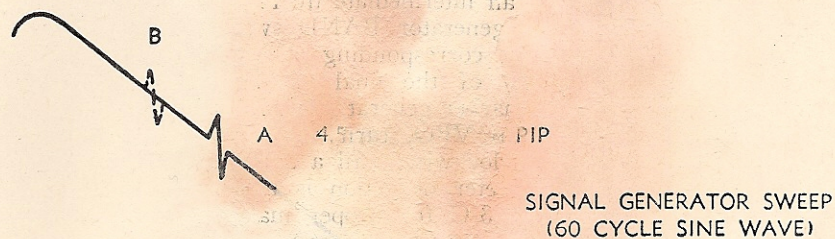
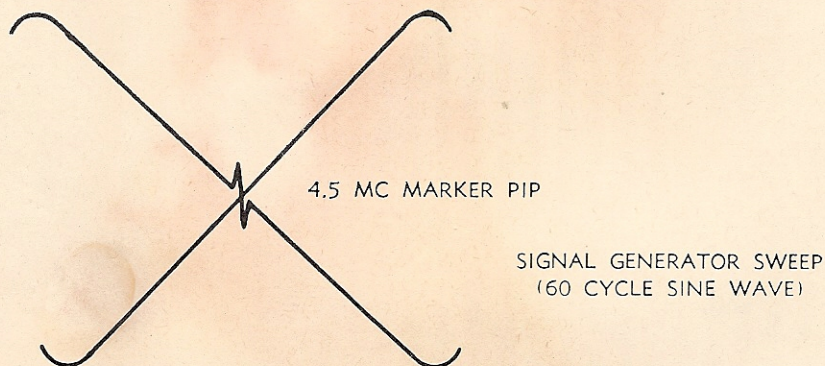

Figure 7—Intercarrier Sound Detector Response Curve as Viewed on an Oscilloscope Using a 60 Cycle Sawtooth Sweep Voltage
Figure 8—Intercarrier Sound Detector Response Curve as Viewed on an Oscilloscope Using a 120 Cycle Sawtooth Sweep Voltage
- E. *Sound Detector Alignment.* To view the characteristics curve of sound detector, rewire the oscilloscope in the manner designated in the receiver alignment data. The curve should be somewhat similar to Fig. 7, providing the oscilloscope sweep is a 60 cycle sawtooth wave.
The 4.5 mc marker pip should fall exactly in the center of the pattern as illustrated in Fig. 7. Adjust the primary of the discriminator or ratio detector transformer for maximum pattern amplitude. The secondary should be tuned until the curve is symmetrical. The receiver manufacturer may designate a horizontal oscilloscope sweep frequency of 120 cycles instead of 60 cycles. In this case, the curve will be similar to Fig. 8, commonly known as a "crossover".